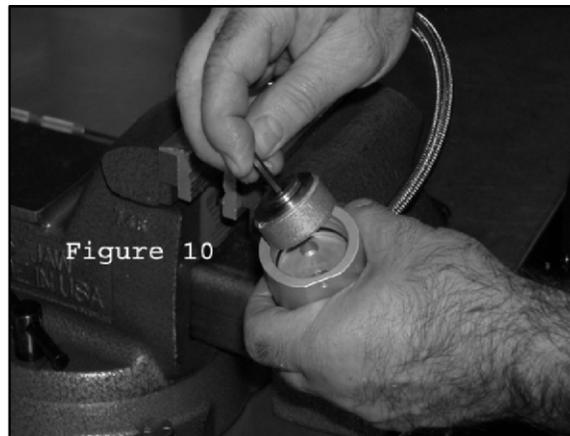

Figure 10
25. Insert a 5/32" Hex Key into the screw head of the damp plate. Remove damp plate by twisting clockwise. (Fig. 10) Place the damp plate assembly on a clean, lint free paper towel.